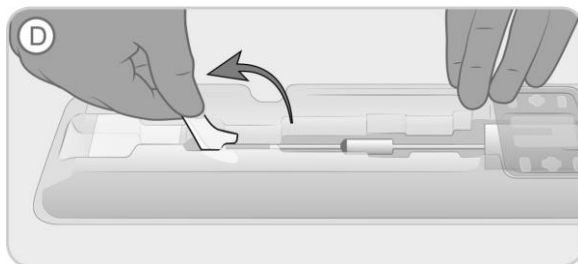

Figure 5. Flip the funnel lever to release device from tray.
- D. Flip the funnel lever to a vertical position to release the delivery device from the loading funnel (indicated on the tray with “D”), Figure 5.